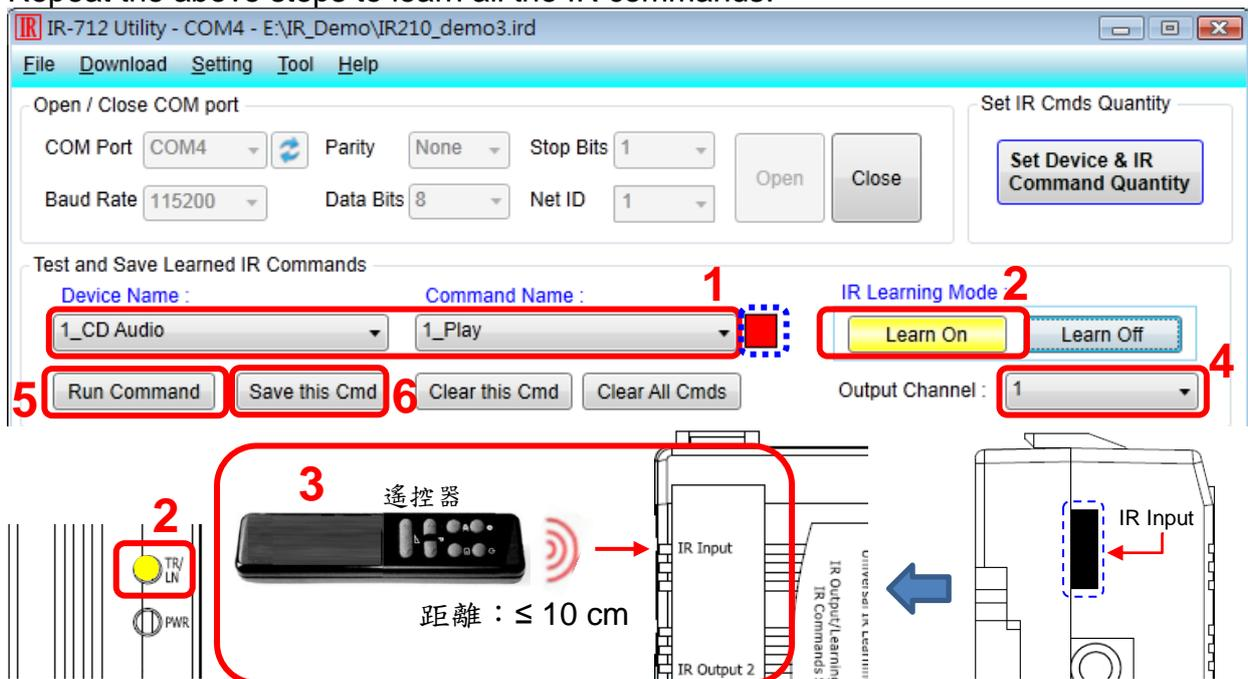

Fig. 4-6: The steps to learn IR commands.
Follow the steps below and Fig. 4-6 to learn and test IR commands:
- (1) Determine the IR command for learning by selecting the items in the “Device Name” and “Command Name” combo boxes.
- (2) Click the “Learn On” button to enable the IR learning mode on IR-712. At the same time, the TR/LN LED is turned on to show the IR learning state.
- (3) Aim the IR emitter head of the device’s remote control at the IR input of IR-712. The distance less than 10 cm between the remote control and the IR-712 would be best. Then, press the button of the remote control which is to be learned in a short time. If the learning for the IR command is finished, the TR/LN LED will be turned off and the IR learning data will be sent back to the Utility.
- (4) Select the IR output channel. For example in Fig. 4-6, the IR output channel is 1.
- (5) Aim the head of the IR emitter cable plugged in the IR output 1 at the corresponding IR-controlled device. Click “Run Command” button to emit the IR command from the IR-712. You can check if the learned IR command is OK by investigate the action of the appliance. If not, please repeat step 2 and step 3 again.
- (6) Click “Save this Cmd” button to save this IR learning command to the current item of the “Command Name” combo box, e.g. the item is “Play” in Fig. 4-6.